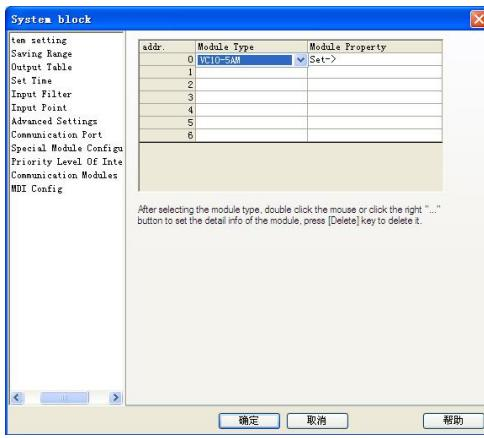
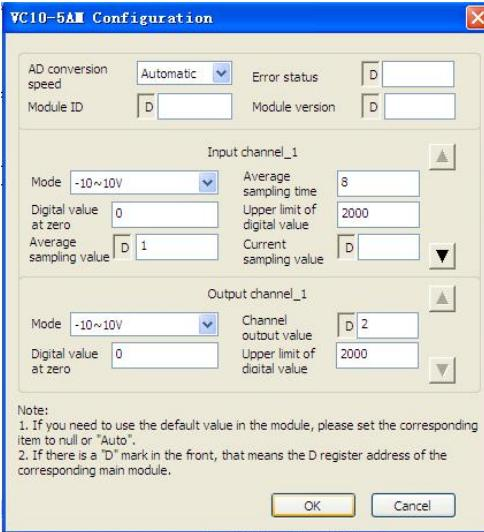

Figure 4-1 Setting special module type
Figure 4-2 Setting special module parameters
9. BFM#4094: module software version, displayed automatically as **Module Version** in **VC10-5AM Configuration** dialogue box of the host software, as shown in Figure 4-2.
Example: The VC10-5AM module address is 1 (for the addressing of extension modules, see **VC10 Series PLC User Manual**). Use its channels 1, 2, 3 and 4 for voltage signal input (-10V~10V), set the average sampling times to 4, and use data registers D1, D2, D3 and D4 to receive the average value; set output channel to mode 0 to output 10V voltage signal, and use D5 element. Set extension module type as shown in Figure 4-1, and set actual parameters of extension module. Figure 4-2 shows the setting of input channel 1 and output channel 1. Set the other three input channels respectively in the same way.